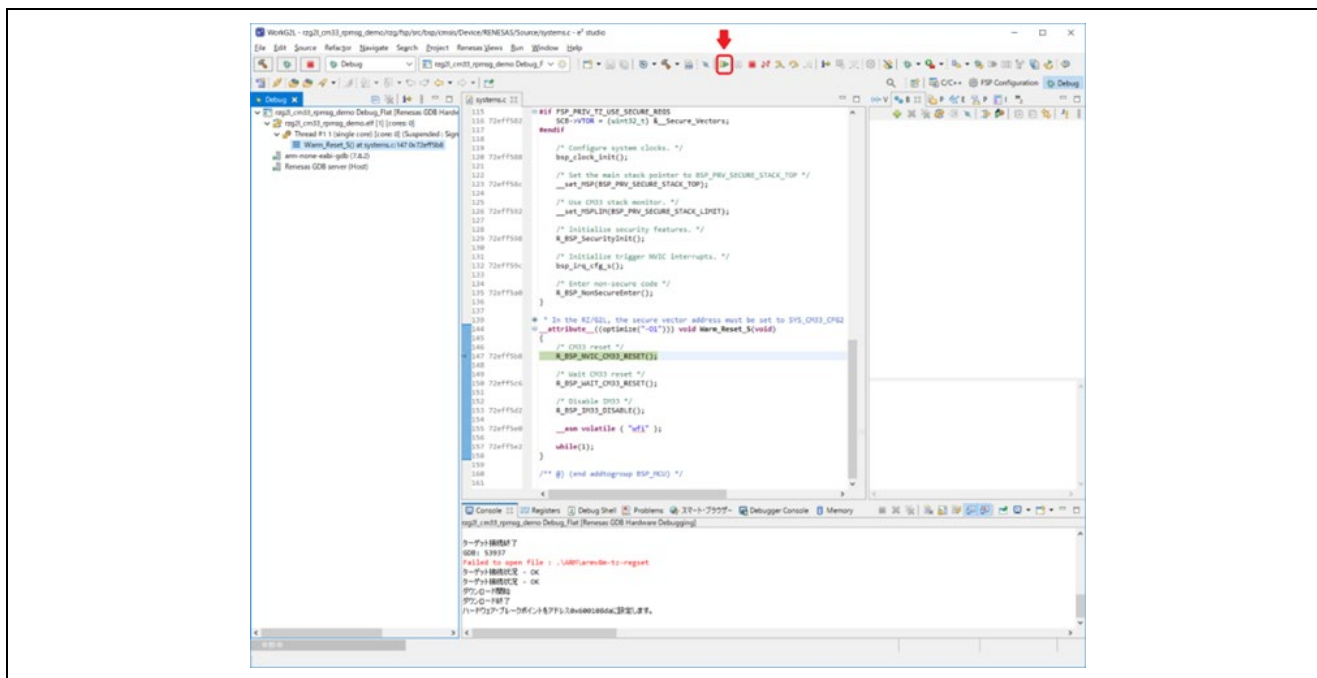

Figure 4-7. How to start to debug sample program (1)
3. When the debug perspective is opened, Program Counter (PC) should be located at the top of Warm_Reset_S function. Then, you need to press the button indicated by a red arrow in Figure 4-7.